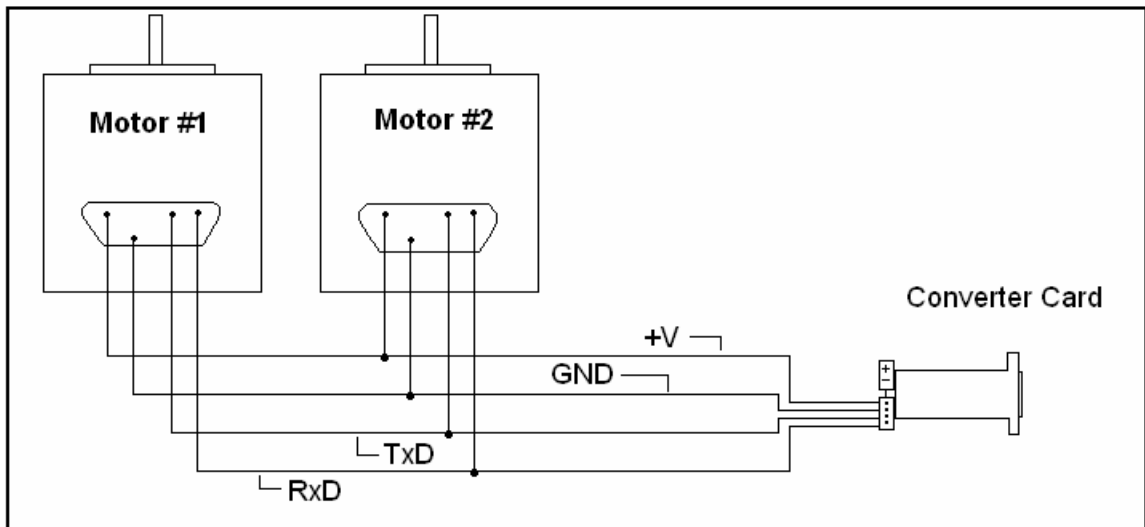

Figure 4.7
- Figure 4.7 shows a basic schematic of the connections between two motors and the converter card